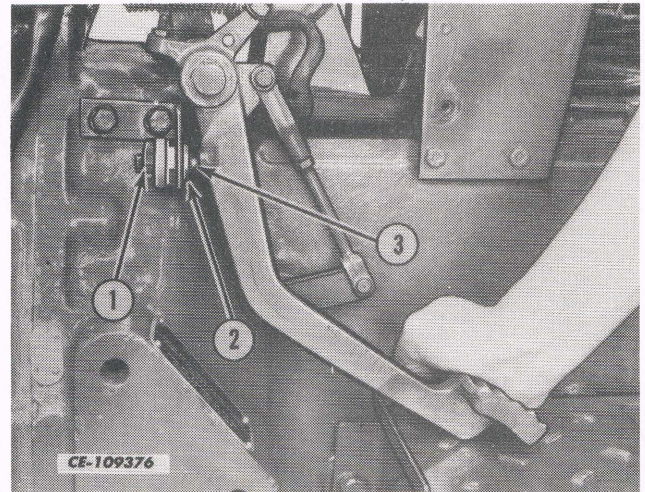

Fig. 4
With the clutch pedal in the fully disengaged position, adjust switch plunger (3, Fig. 4) so that it is depressed 2.5 mm (0.10 inch). Tighten the nuts (2) to lock switch in position.